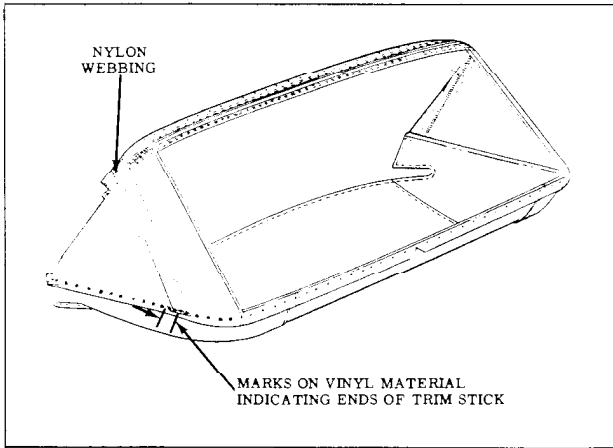

Fig. 15-88 Marking Back Curtain
10. Using a pencil, mark both ends of rear and rear quarter trim sticks on vinyl surface of top material. (Fig. 15-88) Reference marks for trim sticks should be transferred to new top material when Step 31 of installation procedure is performed.
15. Using chalk, or other suitable material, mark ends of rear and rear quarter trim sticks on vinyl surface of back curtain material. (Fig. 15-88) Reference marks for trim sticks should be transferred to new back curtain material when Step 8 of installation procedure is performed.
16. Remove right and left nylon webbing from rear trim stick. (Fig. 15-88)